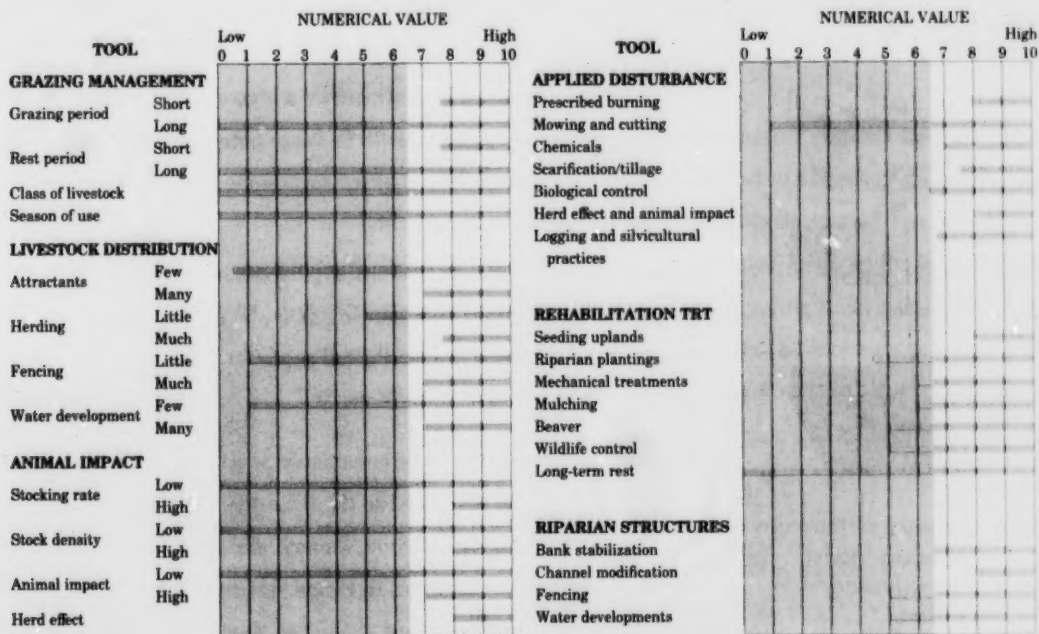
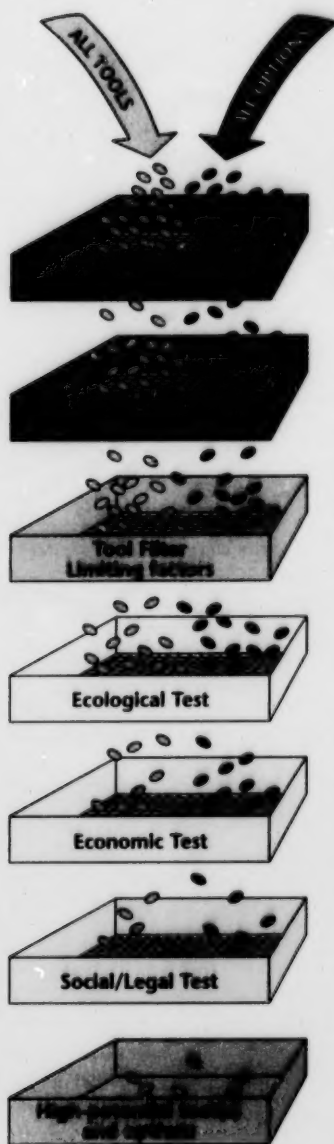

Figure 5 The Tool Filter – example situation score of 6.5.
Figure 6 Remedial Measures Model tool screening process.
4. Total the score for the categories of **Environmental favourability**, **Manager commitment/skill**, and **Available resources**. The score will range from a possible high of 10 to a possible low of 0. You'll need this number when you use the Tool Filter (Figure 5).
EXAMPLE: You have used the Situation Chart to find that in a particular situation in Vanderhoof the environment is not brittle and you have decided to give Environmental favourability a score midway between 0 and 3, which is 1.5. The managers are committed to some change. This provides a score of 2 for Manager commitment/skill. Available resources of all kinds are abundant, including funding, equipment, and labour, so that score is 3. Added altogether, the score is 1.5 plus 2 plus 3, for a total of 6.5. This is the score you will use in the Tool Filter (Figure 5).
With the Situation Chart we learned what kinds of resources were available and where our weak links and constraints were. We came up with a situation score of **6.5** in our hypothetical Vanderhoof example, which we can now use to screen potential tools. The Tool Filter (Figure 5) lists all the tools available to us and separates them into the categories of **Grazing management, Livestock distribution, Animal impact, Applied disturbance, Rehabilitation treatments, and Riparian structures.** The filter shows minimal scores necessary to “qualify” a tool for use in a particular situation. **If a tool has a score that exceeds your situation score, it is not available to you.** After you have determined a situation score for your particular situation, you can review the tools and pull out those that are “qualified” (example shown in Figure 6).
To give you a better idea of the overall procedure we're engaged in, Figure 6 illustrates the entire **tool screening process.** In it, many tools are poured into the top filter and allowed to trickle down through the remaining filters. Each filter, such as the limiting-factors filter, removes some tools from further consideration. By the time all the tests are applied, perhaps only a few tools will remain.